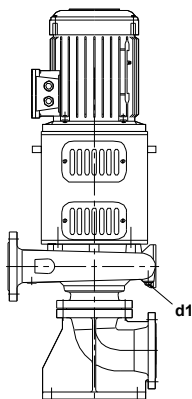

Fig. 6
- Every pump is fitted with connections on the pump casing to drain the pump and on the bearing bracket to evacuate the seal leakage from the stuffing box (Fig. 6). If required the pump drain and seal leakage can be piped to a suitable reservoir. The pump draining piping must be fitted with an isolating valve and both must be suitable for the maximum operating pressure of the pump.